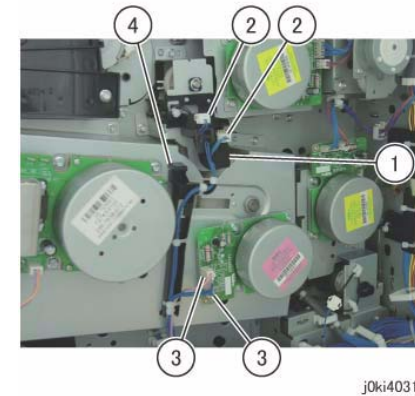

Figure 2 Move the Harness Holder
8. Move the Harness Holder. (Figure 2)